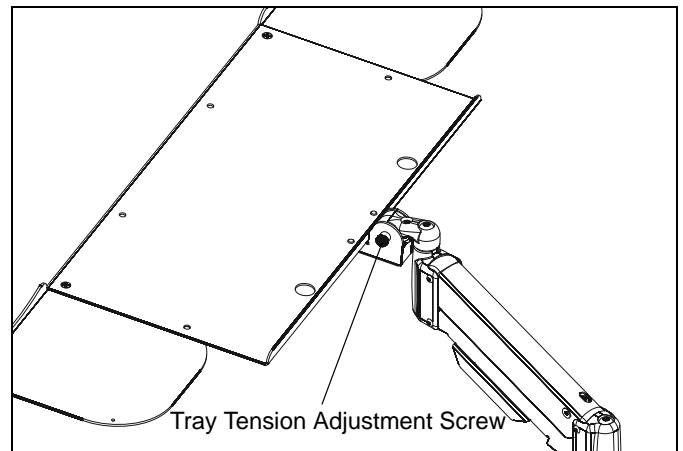

Figure 11
- Using 1/4" hex key (K), slightly loosen or tighten the tray tension adjustment screw as necessary. (See Figure 11)